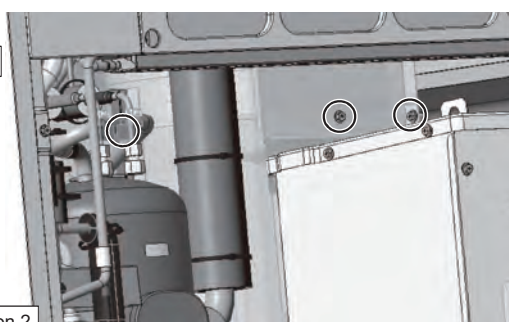

Figure 6
- (6) Remove the duct by unscrewing the two screws. (See Figure 6. Applicable to the S-module only)